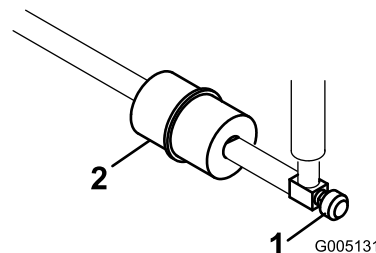

Figure 32
The in-line fuel filter is in the fuel line between the fuel tank and carburetor (Figure 32).
1. Close the fuel-shutoff valve (Figure 32).
2. Place a drain pan under the filter, loosen the hose clamp on the carburetor side of filter, and remove the fuel line from the filter (Figure 32).
3. Loosen the other hose clamp and remove the filter (Figure 32).